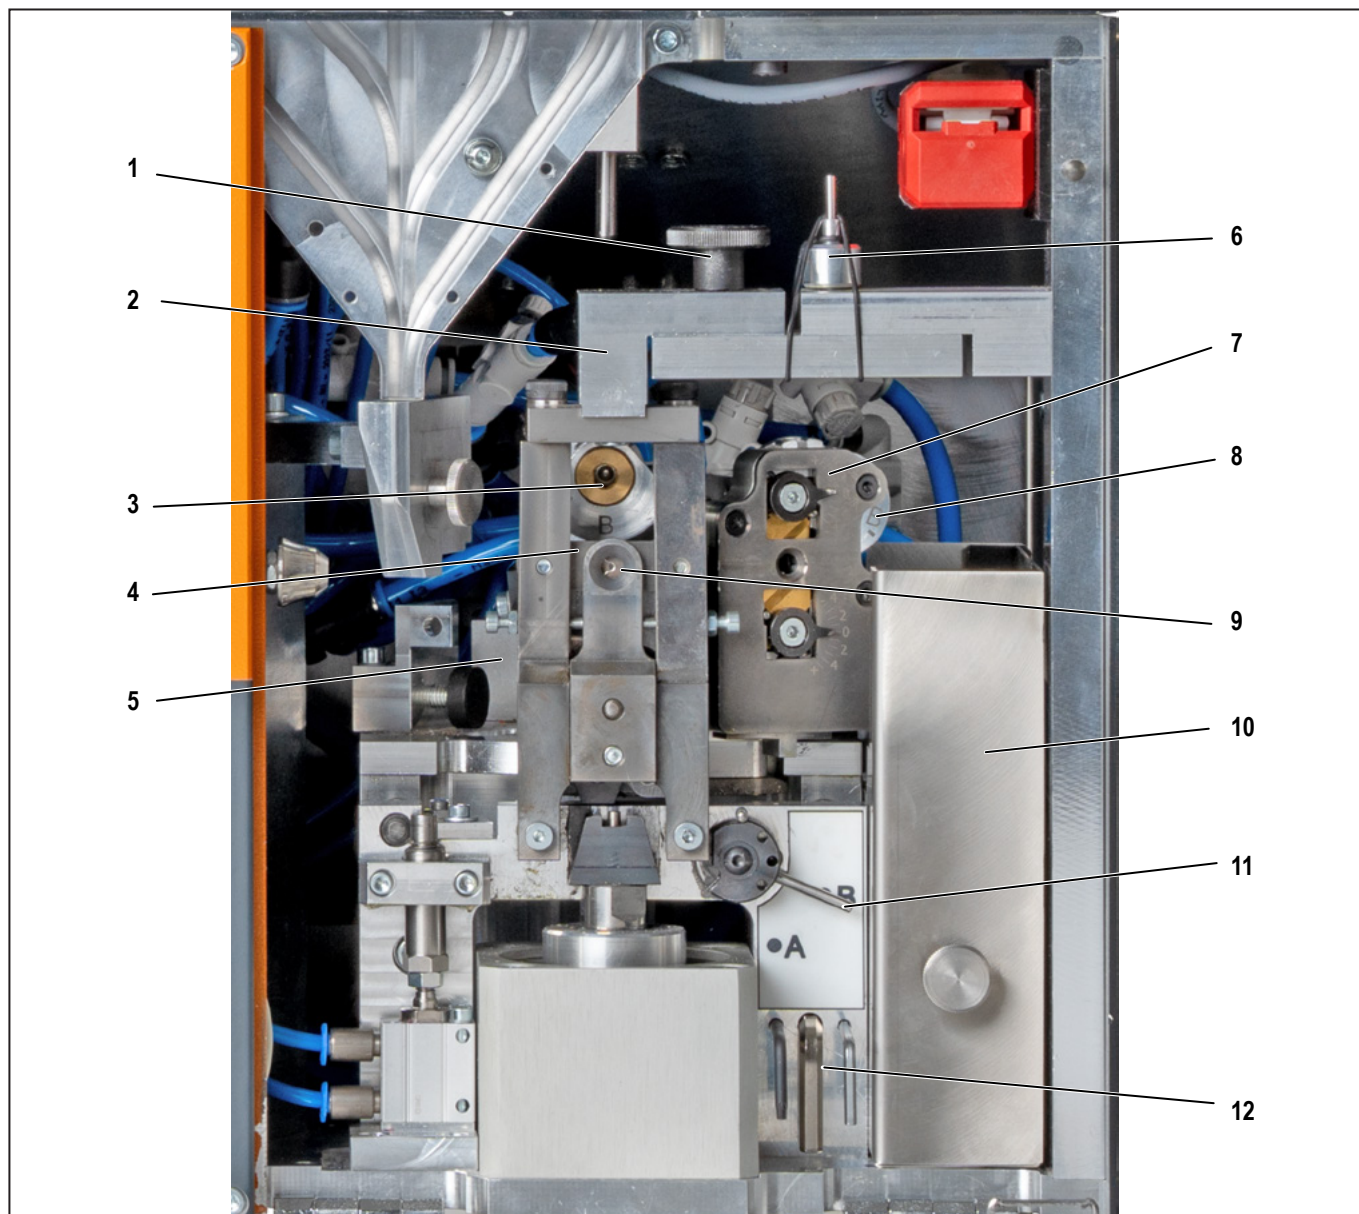

Figure 3.3 Internal view
- ▶ Place the fixing pin with the small diameter into the bottom opening of the transport unit. You can find the fixing pin in the interior of the machine (see Figure 3.3, 6).